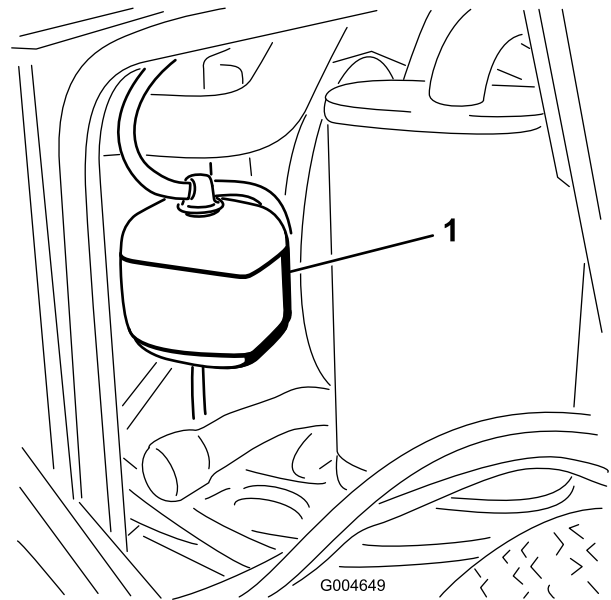

Figure 36
1. Check the level of the coolant in the expansion tank (Figure 36).